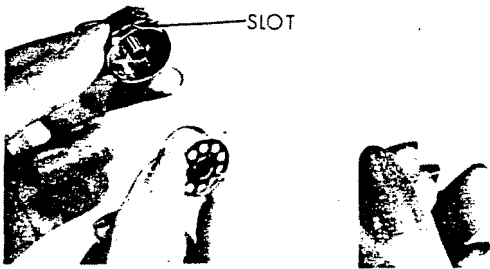
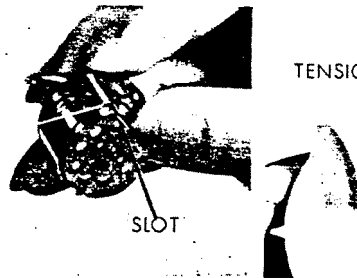
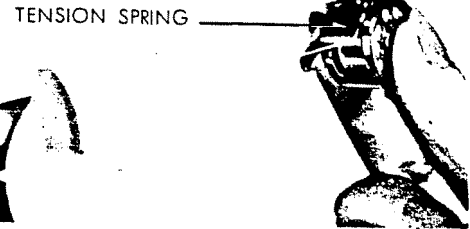

Fig. 6
Fig. 7
Fig. 8
Place a spool of thread on one of the spool pins, lead thread through the upper thread guides on the arm, and down through the tension disc (7, Fig. 6) at the base of the machine. Run end of thread through a hole in the bobbin edge and place bobbin B on spindle of bobbin winder (S) fitting the notch on bobbin over small pin on spindle. Push bobbin winder pulley against hand wheel which will declutch the sewing mechanism. Hold thread end loosely and start machine slowly.
Step 1 illustrated in Fig. 6). Hold bobbin case between thumb and forefinger of left hand, so that the slot in the edge of the bobbin case is on top. Take the bobbin between thumb and forefinger of right hand so that the thread on top leads from left to right. Step 2. Insert bobbin into bobbin case, pull the thread into the slot of the bobbin case as shown in Fig. 7, and draw it under the tension spring and into the fork-shaped opening of the spring as shown in Fig. 8.